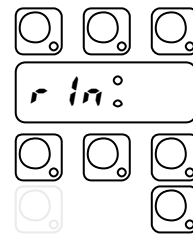

Fig. 3.4
- After settled the duration press CYCLE_INFINITE key to **store value**. The display shows the next parameter (Fig.3.4) and the corresponding value (Fig.3.5);